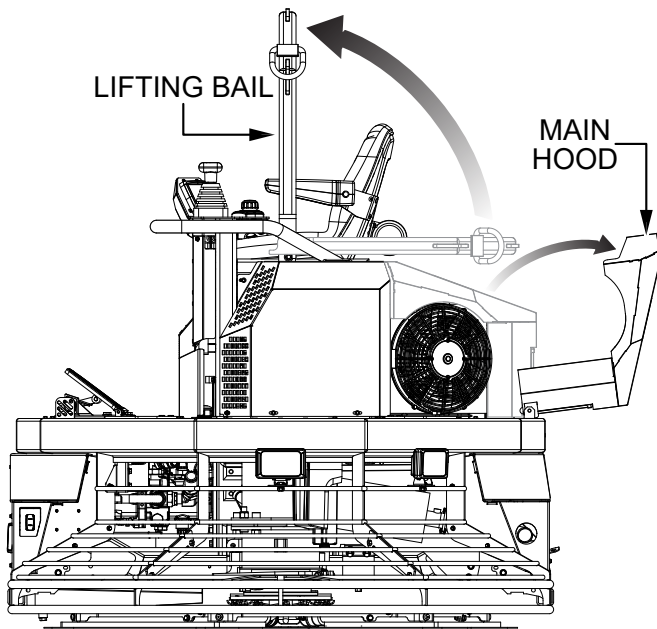

Figure 23. Lifting Bail And Main Hood
2. Raise the lifting bail (if equipped) and open the main hood of the trowel as shown in Figure 23.